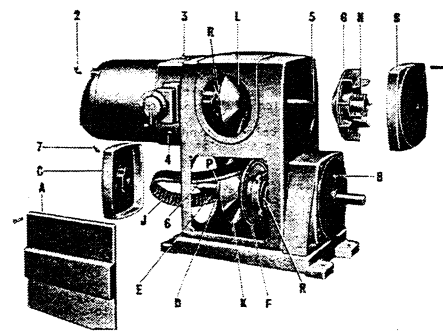

FIGURE 10
- 4A. If your unit is "Z" assembly refer to Figure 10 and remove locknuts (D) from studs (E) and advance studs until the spring loaded VARIDISC (F) is moved about 1/8 inch.
5. Remove bracket (C).
6. Carefully mark the axial and radial position of stationary VARIDISC (G) in relation to shaft **BEFORE** removal.
7. Loosen clamping bolts (H) and slide VARIDISC (G) off shaft. Wedge open the split hub if VARIDISC is tight on shaft.
8. Withdraw VARIBELT over motor shaft and remove through bracket (C) opening.
10. Install VARIDISC (G) to its original premarked position.
11. Secure bolts (H) and re-attach lubrication pipe extension.
12. Replace bracket (C).
- 13A. If your unit is "Z" assembly, back off studs (E) until VARIDISC (F) is in original position. Studs (E) must not contact VARIDISC (F). Replace locknuts (D).